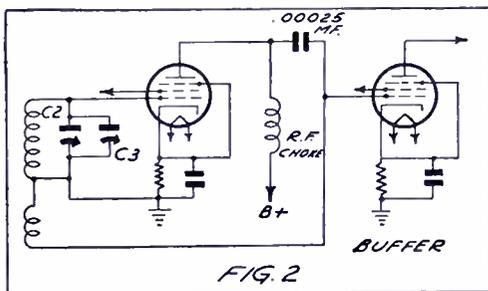
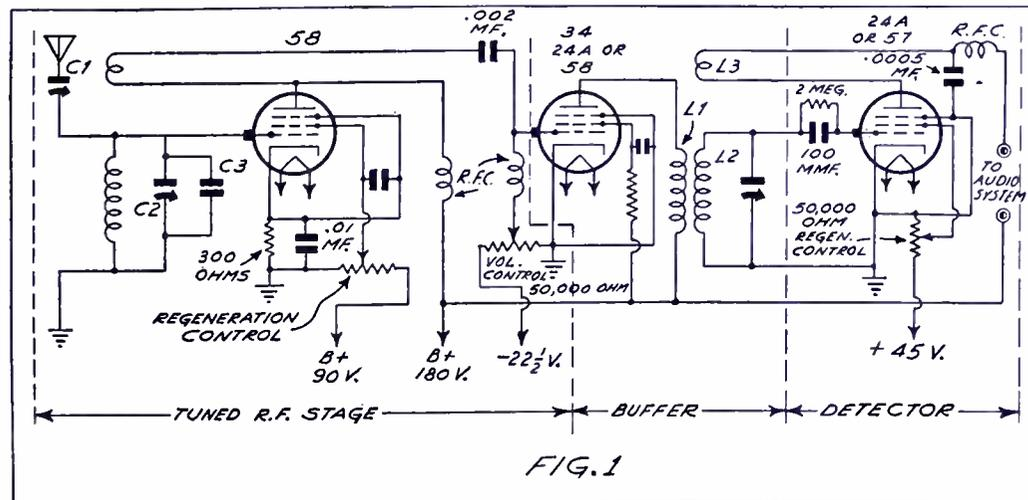

FIG. 2
FIG. 1
A rather unconventional regenerative circuit is used in the tuned r.f. stage. This is shown, not because it is desirable to make the receiver complicated, but to show the different arrangements which may be employed. It must be borne in mind that the buffer stage cannot be tuned. Otherwise, the complexity of the receiver will increase. The circuit of Fig. 1 is merely a suggestion to show what can be done along these lines. Note also that the output of the detector is left open—either a resistance or a transformer coupled audio stage may be added. Figure 2 shows another type of regenerative circuit which may be employed in the tuned r.f. stage. Parallel feed is used here, and the grid of the buffer is connected to the "hot" side of the choke. In this circuit, therefore, it is the voltage developed across the tickler which is applied to the buffer grid. The
The question now arises as to whether or not a single tuning dial may be employed. The answer is "yes," providing a small trimmer is connected across C2; this condenser is labeled C3 in Fig. 1. This condenser should be a small three-plate midget of about 25 mmf. and located, of course, on the panel of the receiver.
Figure 1 is a schematic of an ordinary power unit showing the connection of the choke, or field coil. The current through the winding is exactly the same current that flows through the bleeder resistor and set. Since this current is fairly constant, the field coils of speakers have been designed so as to be used in this position.
Many power packs already have a choke, and owners are not willing to take the trouble to tear them apart, but at the same time they want the advantages of dynamic speakers. For these people, the circuit of Fig. 2 is suggested. This circuit utilizes the field coil as a choke in an impedance output circuit, the only limitation to this use being that the plate current of the last tube must be large enough to supply the
If the speaker field is of the high impedance type, it may even be inserted in the common B plus lead to the receiver; a bypass condenser may or may not be required, depending on the type of receiver. However, this point can be cleared up in a moment by the simple process of trying a bypass and noting whether or not its connection makes any difference. The field for this condition is shown as No. 2 speaker in Fig. 1. Again, the current through the field must be that required for normal operation.
A.c.-d.c. sets are difficult to handle in this respect. A conventional power unit for such sets is shown in Fig. 3. Its connection is similar to that shown in Fig. 1, although the power unit hookup is slightly different. The same limitations apply here as previously described. It is not possible to shunt the field coil across the low-voltage line, as might be thought, for the simple reason that the drain would be too great for the rectifier tube.